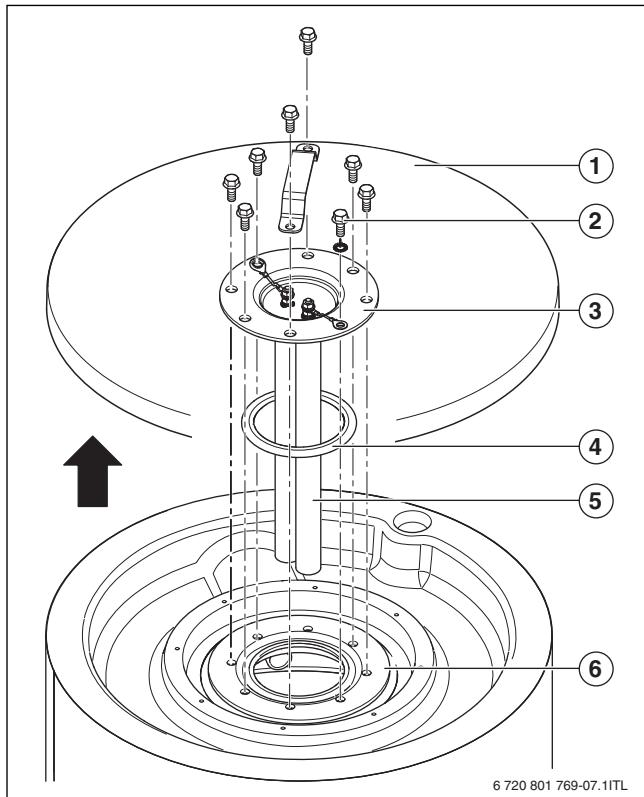
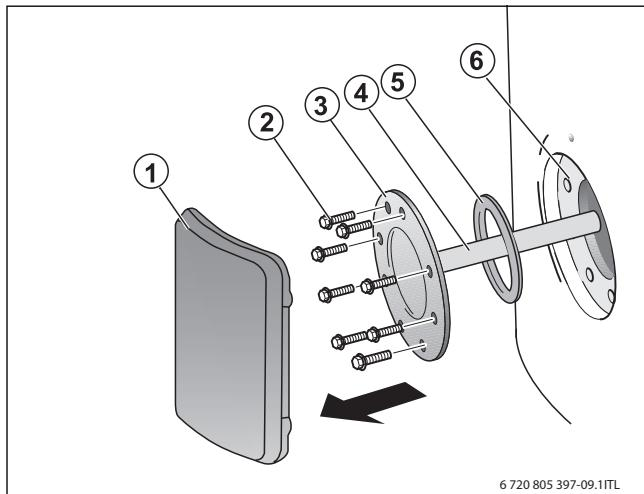

Fig. 17 Removing the cleanout cover SU54/5
Fig. 18 Removing the cleanout cover SU80/5, SU100/5
- PS jacket cover (SU54/5) (→ Fig. 17, page 14, [1]) or handhole cover (SU80/5, SU100/5) (→ Fig. 18, page 14, [1]) of the DHW tank.
- Remove the cleanout cover (→ Fig. 17, page 14), if not yet removed.